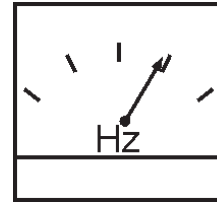

Figure 53. Frequency Meter (Hz)
10. The generator's frequency meter (Figure 53) displays the 60 cycle output frequency in **HERTZ**.